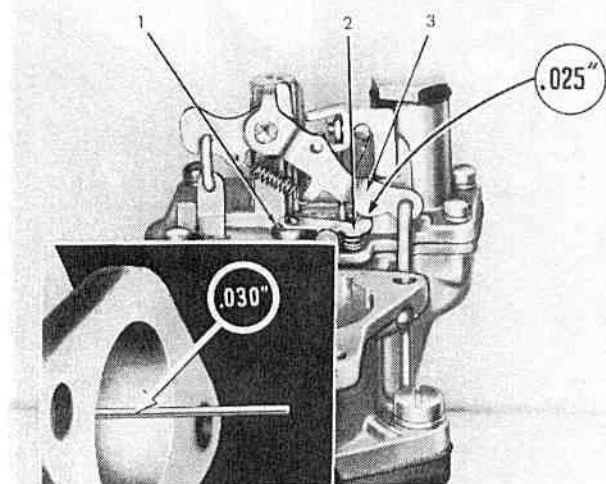

FIG. 410
To check the seating of the anti-percolator cap (1, Fig. 410), insert a .030" (0.76 mm.) wire, Gage No. J-1633, in the throttle body opposite the idle port (see inset). With the throttle closed on the wire, there should be .025" (0.64 mm.) clearance between the anti-percolator rocker arm (2) and the pump operating lever (3). If an adjustment is necessary, bend the anti-percolator rocker arm to obtain the proper clearance.